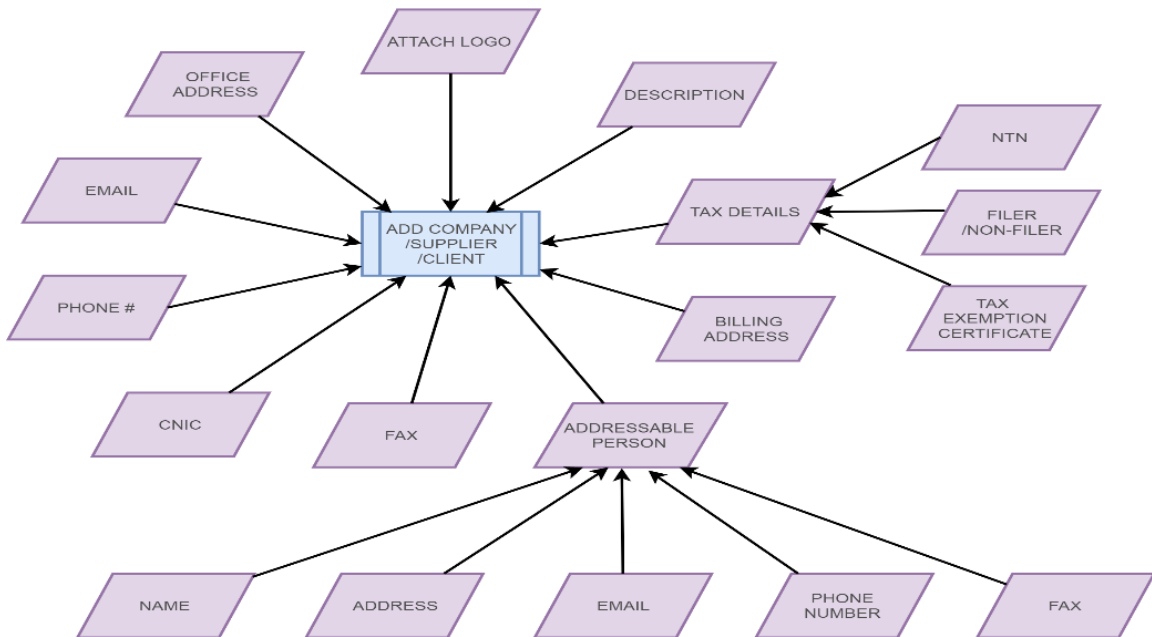

Figure 2.4
2. When the Advertisement will be created. The client will be selected (*refer figure 2.4*) and the advertisement created against that client will be displayed.